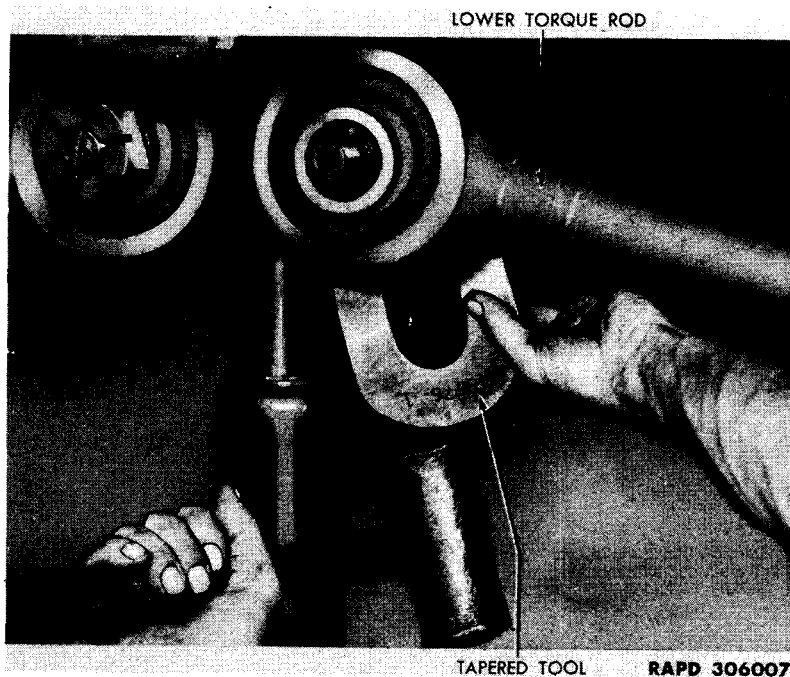

Figure 123—Removing Lower Torque Rod at Anchor End with Remover 41-R-2372-562
b. **Remove Lower Rod.** Disconnect outer end of lower rod (par. 113). Remove cotter pin and nut from lower rod inner end anchor pin. Place tool between rod end and bracket (fig. 123) and drive in to loosen rod end from pin. Pull rod from pin and remove rod from vehicle.